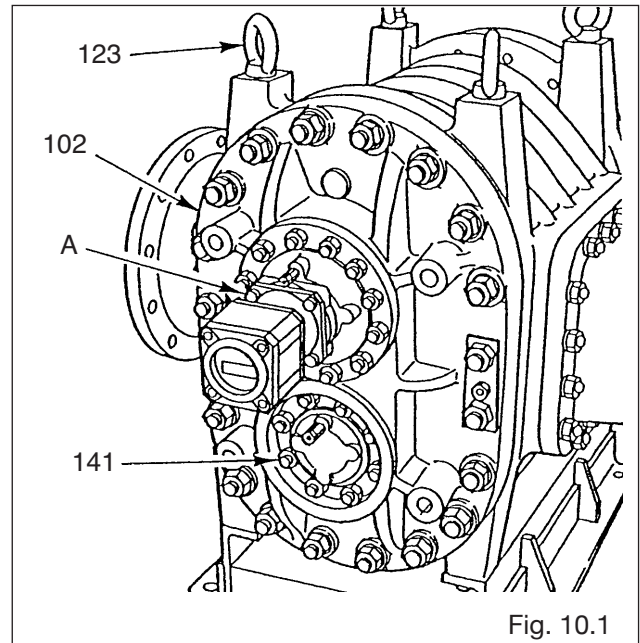

Fig. 10.1
- c) Separate the register assembly. To do this, take off four bolts (A) with hex wrench key and, holding the register assembly, separate it horizontally.
- e) Of the eight nuts (141) found in three blind covers (104) on front cover (102) and rear cover (103), leave two tentatively fixed and take off the remaining six (Fig. 10.1).